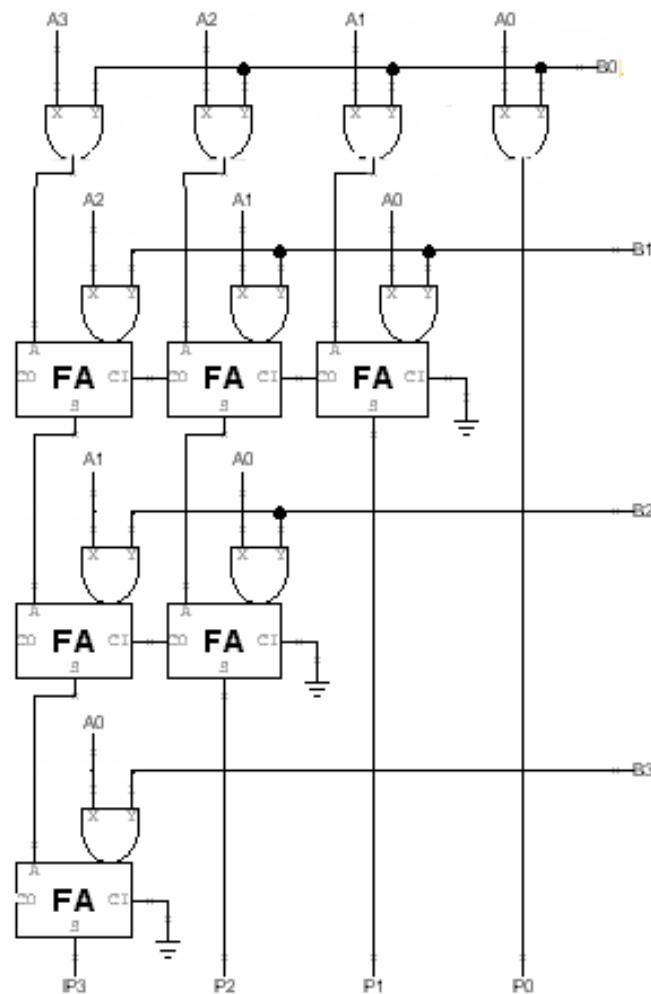

Figure 1: Multiplier Circuit
Add in a multiplier. Modify your ARITH logic to multiply A and B if ALUFN[1]=1. It should only output the lowest 32-bits of the resulting product. Verify for yourself that you can achieve this through two (1) partial products using AND gates, and (2) a ripple-carry add structure to sum the partial products (see Figure 1). Also verify that, by only examining the lower 32 bits, this structure will work with both signed and unsigned numbers.